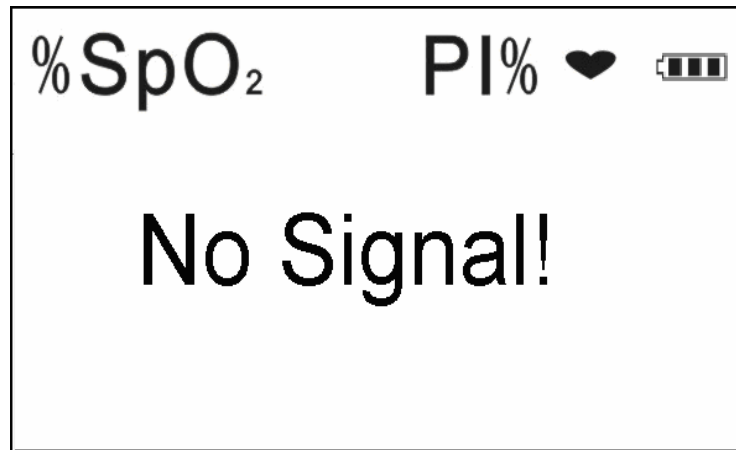

Figure 10 No Signal
- During monitoring, if the probe is not connected to the oximeter or the probe is off, “No Signal!” will be prompted on the screen, as shown in Figure 10.